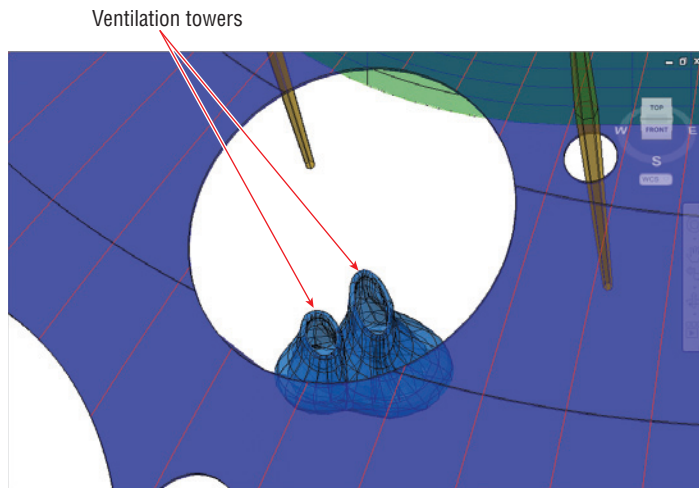

FIGURE 16.13 Using the ViewCube to view the ventilation towers
2. Let's assume that you want to get a close look at the ventilation towers that appear under a large elliptical hole in the dome membrane. Click the edge between the Top and Front faces, and zoom into the ventilation towers, as shown in Figure 16.13.